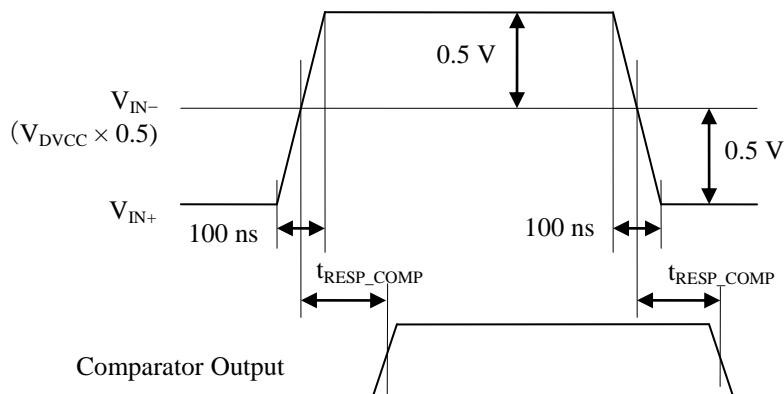

Figure 29-3. Comparator Timing
(3) For the conditions of measurement timing, see Figure 29-3.